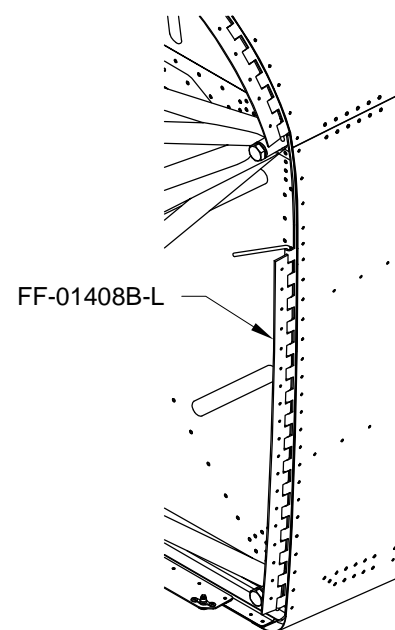

FIGURE 3: INSTALL FF-01408B-L & -R
Step 8: Install the FF-01408B-L & -R Cowl Attach Piano Hinges on the fuselage by inserting the hinge pins. See Figure 3.